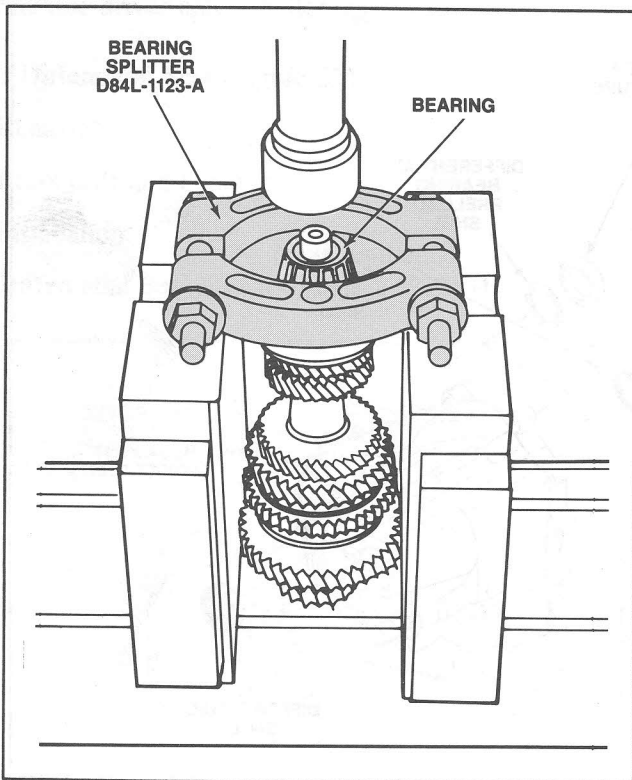

Figure 63 Bearing Removal
3. Remove the bearing from the fifth gear synchronizer end of the output shaft. (Figure 63).